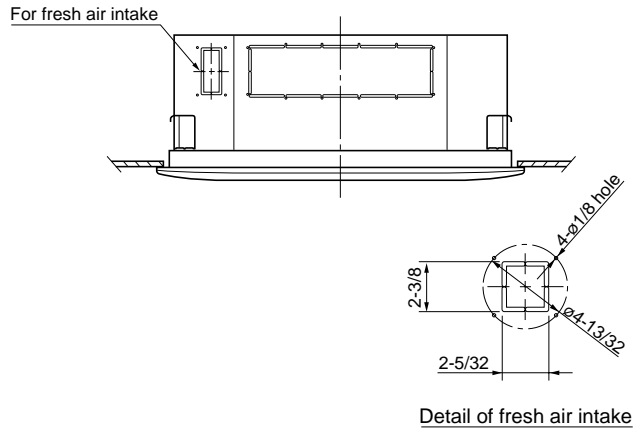

Fig. 3-16
- There is a duct connection part on sideface of the indoor unit. (Fig. 3-16)